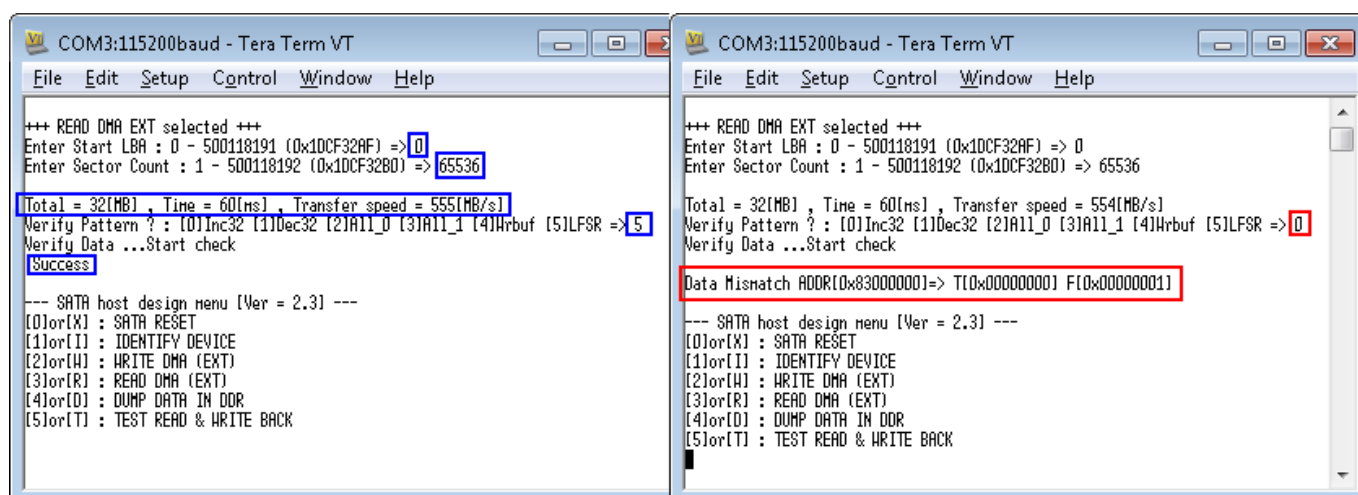

Figure 3-7 READ DMA (EXT) with verify process
- Verify Pattern (Optional): this value is used for selecting verification pattern. This input should be matched with the pattern in WRITE DMA (EXT) menu. Six verification patterns can be selected, similar to write pattern. "Verify Data ... Success" is displayed for success case, and "Data Mismatch with failure value" is displayed for failure case, as shown in Figure 3-7.